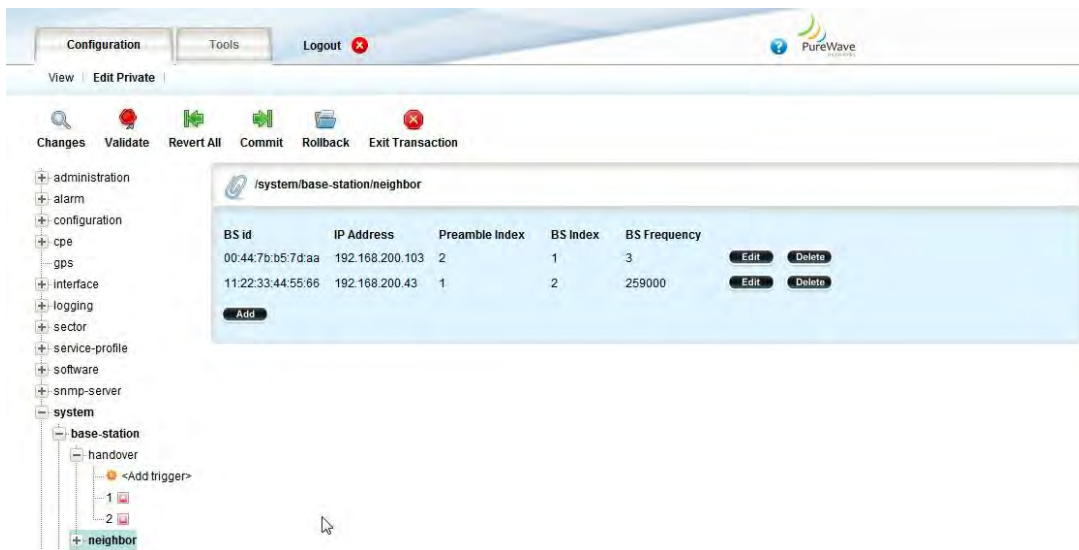

Figure 71 Base Station Neighbor Settings
- **Neighbor.** This is the place to configure information about neighbor Base Stations (Figure 71). This is required for handover operation. The neighbor list is specified in Figure 72. This can be left unconfigured if no handover is required. For each neighbor, the following needs to be configured: